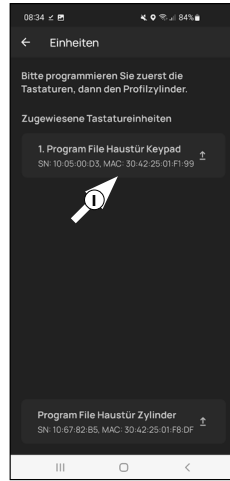

Fig. 6
! **Note:** In case you have created data for the keypad, you are requested to transfer this first (I) (Fig. 6). To do this, continue directly with point ⑦.
If you have not entered any data for the keypad and this menu item (I) (Fig. 6) does not appear, continue directly with point ⑩.
- ⑦ To transfer the keypad data, tap on "1st Program File <Keypad name>" (In this example "Front door keypad") (I) (Fig. 6).